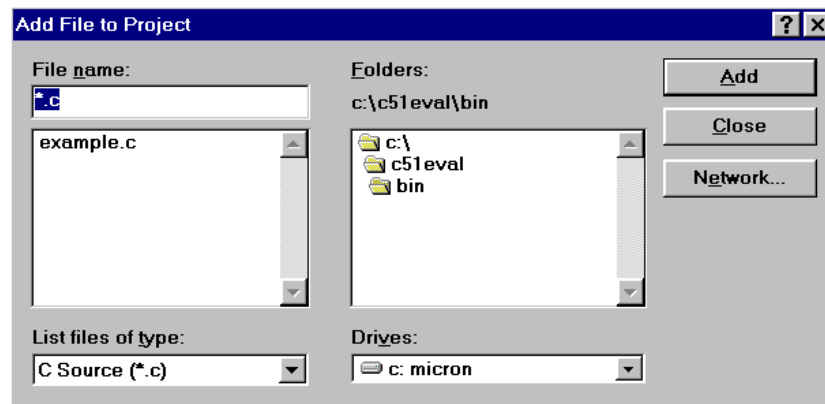

FIGURE 8
- 2) Choose *Add*. The window shown in Figure 8 appears. This is where you add the files to your project.